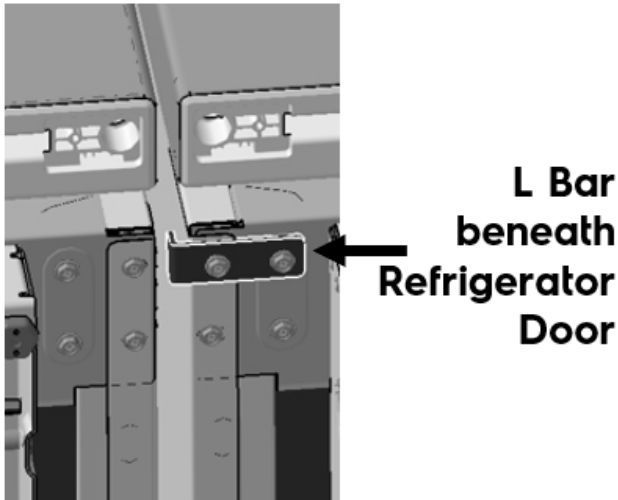

Figure 8
4. With the refrigerator still on its back, use a 5/16" nut driver to remove two 4H bolts, and fasten the 10H L-Bar as shown in Figure 8.